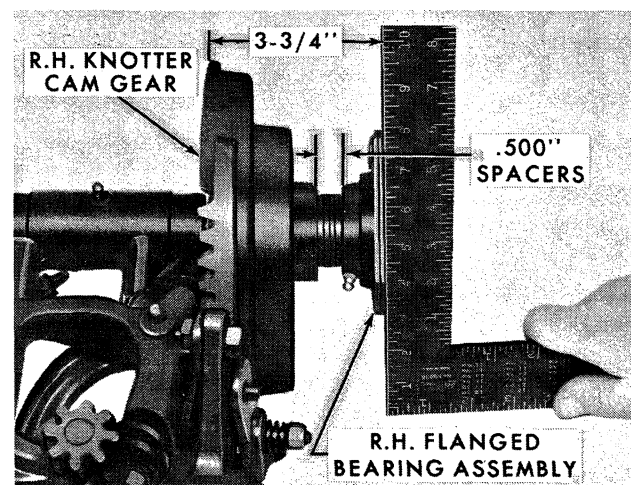

Figure 6
8. Install approximately 0.500" spacers (8), the right-hand flanged bearing assembly (9) (with mounting bolts installed), 0.150" spacers (10), and the adjusting nut (11). Tighten the nut to remove any end play in the knotter stack, then back it off until the bearing is allowed to rotate freely. Do not install the cotter pin at this time.
10. With a square or other straight edge positioned as shown in Figure 6, measure the distance between the machined surface of the right-hand knotter cam gear and the outer surface of the right-hand flanged bearing assembly. The measurement should be 3-3/4" plus or minus 1/32". Add or remove spacers (8), as required to obtain the dimension.